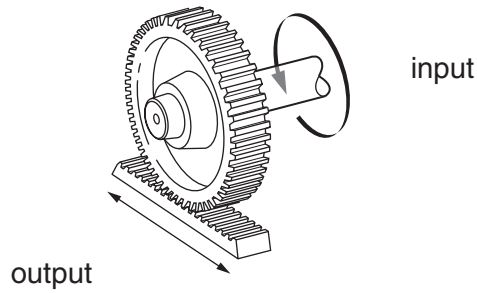

Fig. 7
- (iv) A rack and pinion could be used to open and close the fan light. Fig. 7 shows a rack and pinion.